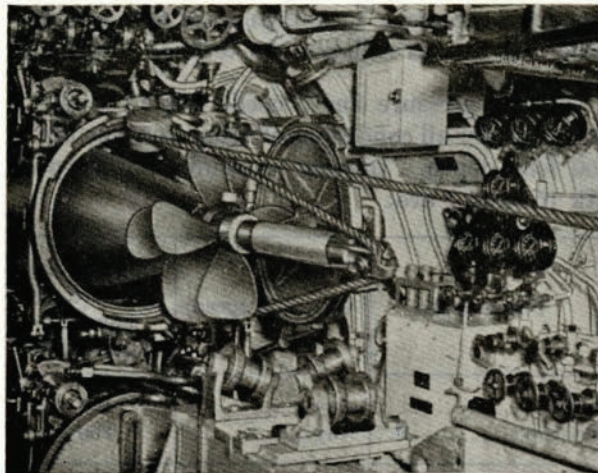

Figure 227—Easing Torpedo Into Tube.
- j. Ease the torpedo farther into tube, figure 227, until only propellers and tail piece project.